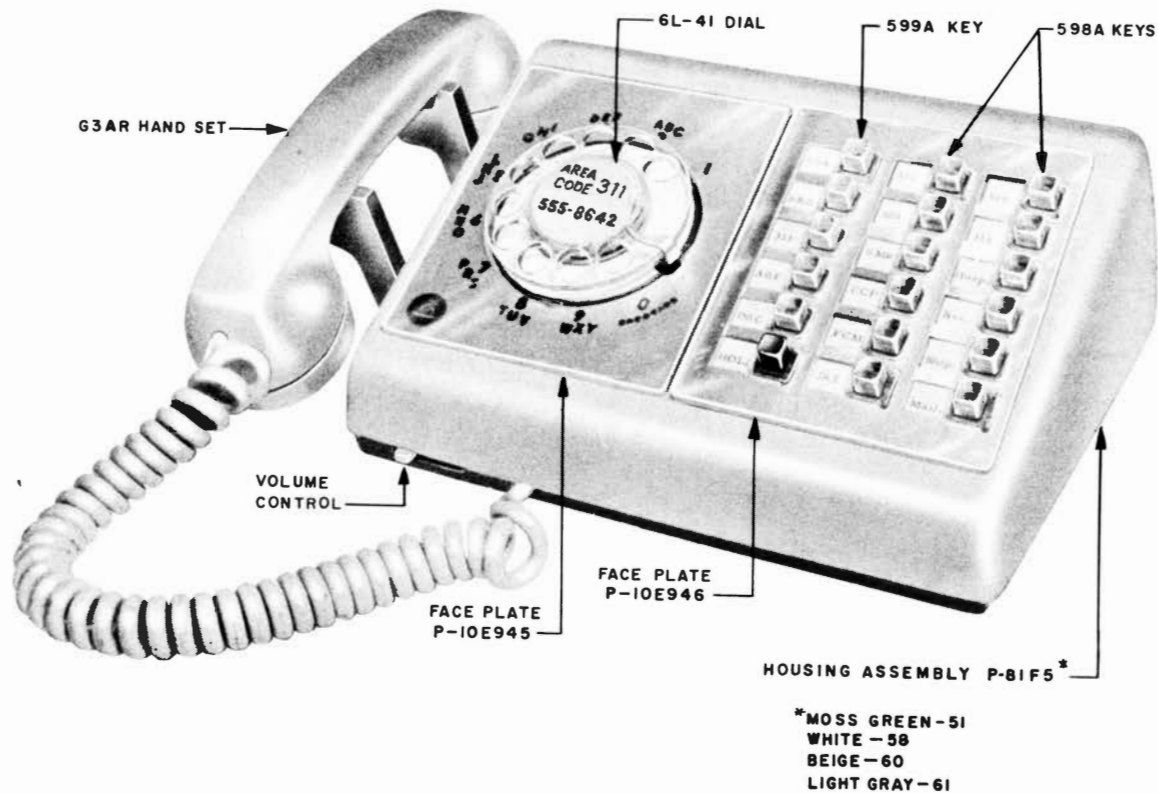

Fig. 1 — 600-Type Telephone Set
2.01 These sets are equipped with a colored plastic housing with a sloping front surface, in which are mounted a dial and either three or five 6-button keys (Fig. 1, 2, 3, and 4). The sloping front surface is covered by a colored mat held down by clear plastic faceplates. The colored handset is supported by a switchhook extending from left side of telephone set. Sets are available in moss green (51), white (58), beige (60), or light gray (61). Five mats are furnished with each set and are colored as shown in Table A.
2.02 The telephone circuit of these sets is similar to that of 500-type sets. They contain a 425B network, a D1A ringer, a switchhook supporting a G3AR hand set of matching color, and a 6L-41 dial (Fig. 1, 2, 3, and 4). The D1A ringer is a single-gong ringer and has a control mechanism arranged to vary the volume of the ringing from LOUD to OFF when control lever is moved through its full travel. Control lever projects through base at front of set. Some D1A ringers have been manufactured with an external terminal plate permanently attached and will not fit these sets. Therefore, use a D1B ringer when replacements are necessary. In addition to single-gong ringer, a 7-type buzzer or a KS-8109 buzzer may be mounted internally on a 65A bracket.